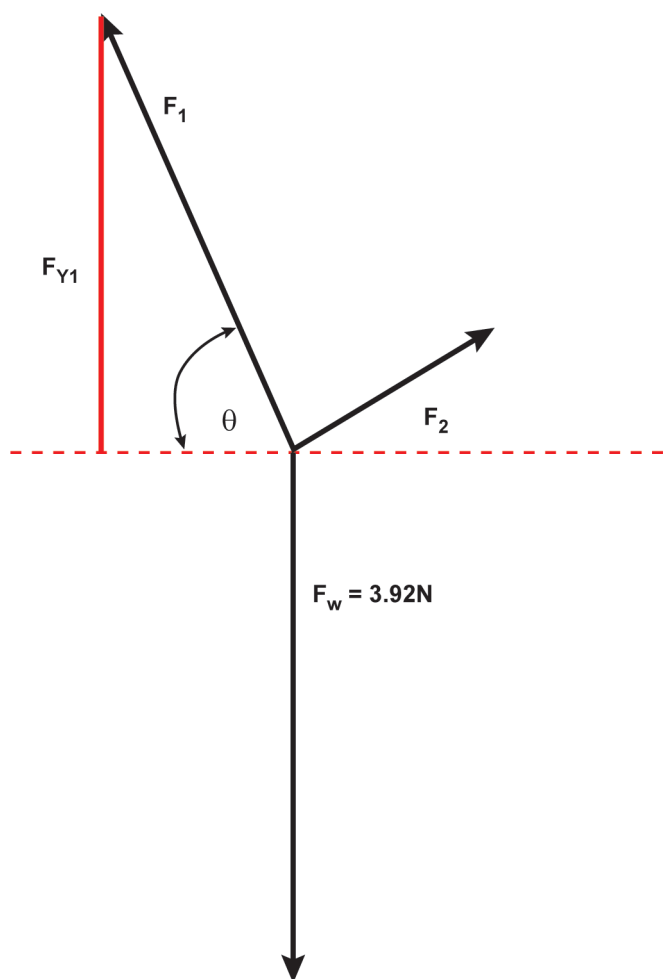

Figure 8
- 1. The vertical component of F_1 is shown in Figure 8. The vertical component of F_1 can be written as: